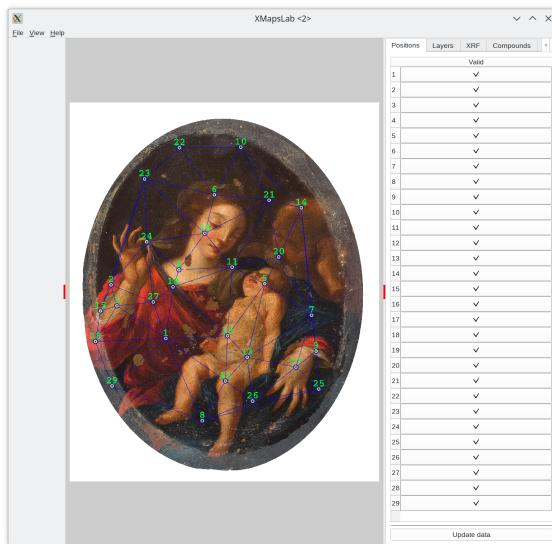

Figure 5.24: The triangulation is shown.
- * **Normal:** This option displays the Delaunay triangulation without including the corners (Figure 5.24).